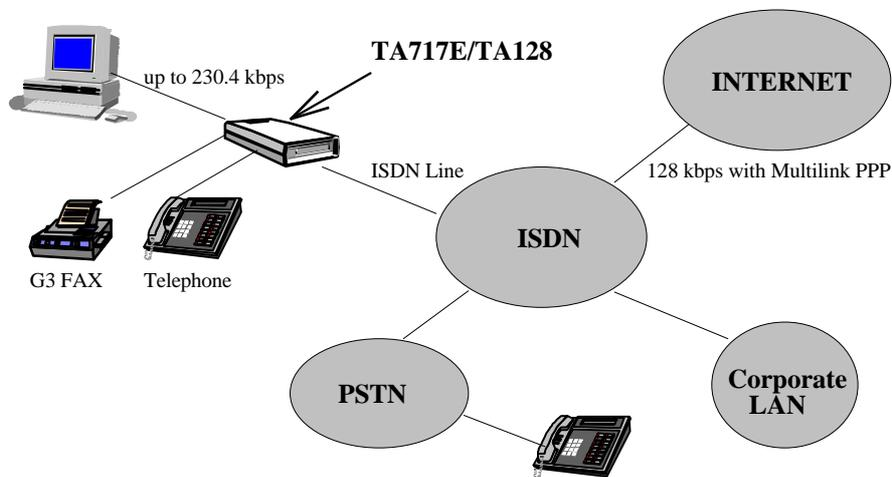

Figure 1-1 Internet and remote network access with the TA717E/TA128
Thank you for purchasing this product. Much research and development has gone into the design and manufacture of the TA717E/TA128 to make it a truly exceptional performer with a wide range of functions. The TA717E/TA128 is an ISDN Basic Rate terminal adapter (TA) which provides high performance solutions to access the Internet, on-line information services, remote office LANs or other remote systems. In addition to the data service, through the standard POTS analog interface, the user can connect TA717E/TA128 with an existing telephone, G3 fax or modem. A typical TA717E/TA128 application is shown in Figure 1-1.